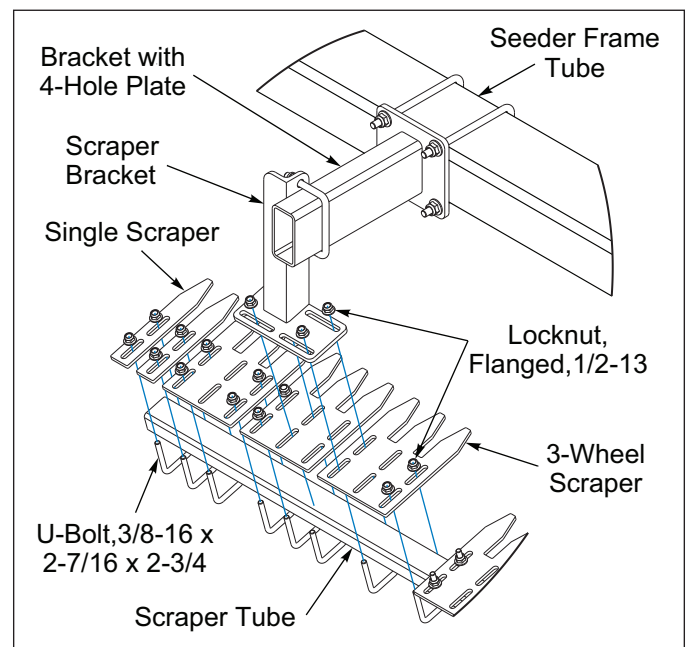
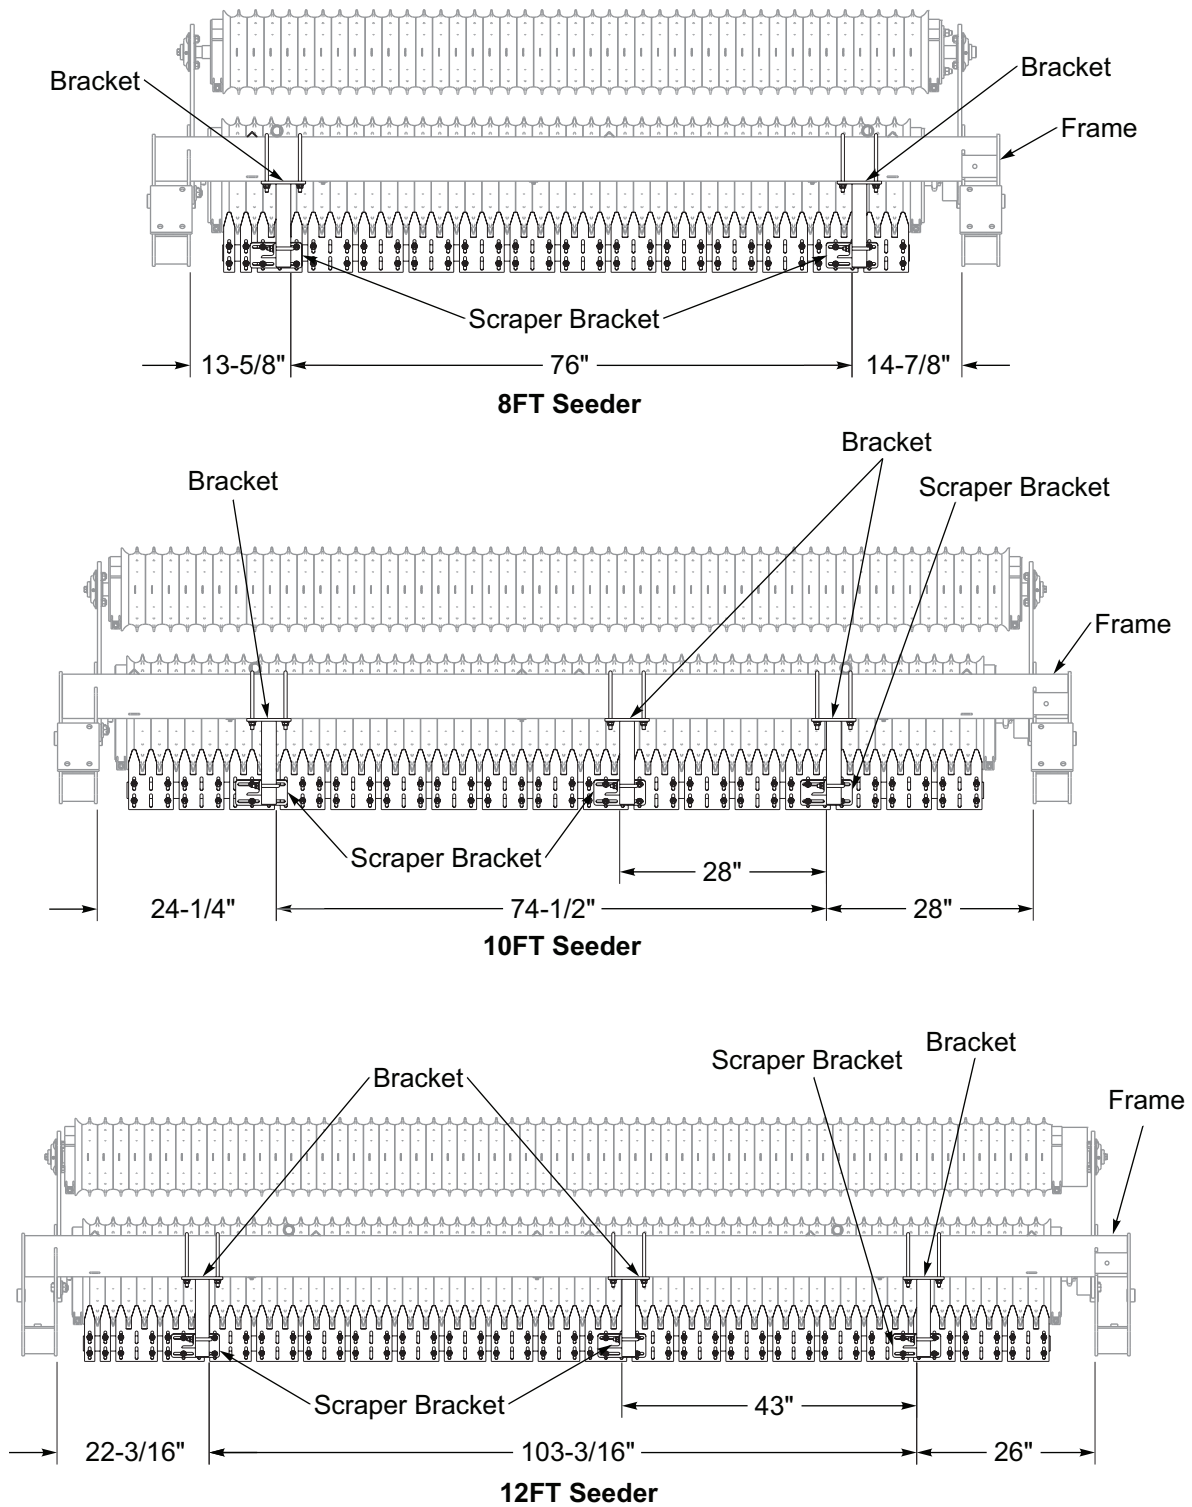

Figure 2-63: Scraper Assembly
Figure 2-64: Scraper Mounting Dimensions - Pull-Type
2. Position and assemble the Brackets with the 4-Hole Plate approximately as dimensioned on the front of the Seeder Frame Tube. See Figures 2-64 and 2-65. Secure with 1/2-13 x 4-1/2 x 7-1/2 U-Bolts and Flanged Locknuts.
Scraper Brackets should be positioned per application. Use Figures 2-64 and 2-65 only as a reference.
6. Align the Scraper Brackets Slotted Plate to the appropriate Scrapers and attach with the Scraper 3/8-16 Hardware. **See Figure 2-63.** It may be necessary to use the center pair and an outer pair of slots in the Scraper to attach the Scraper Bracket to the Scraper and Tube Assembly. **See Figures 2-64 and 2-65.**